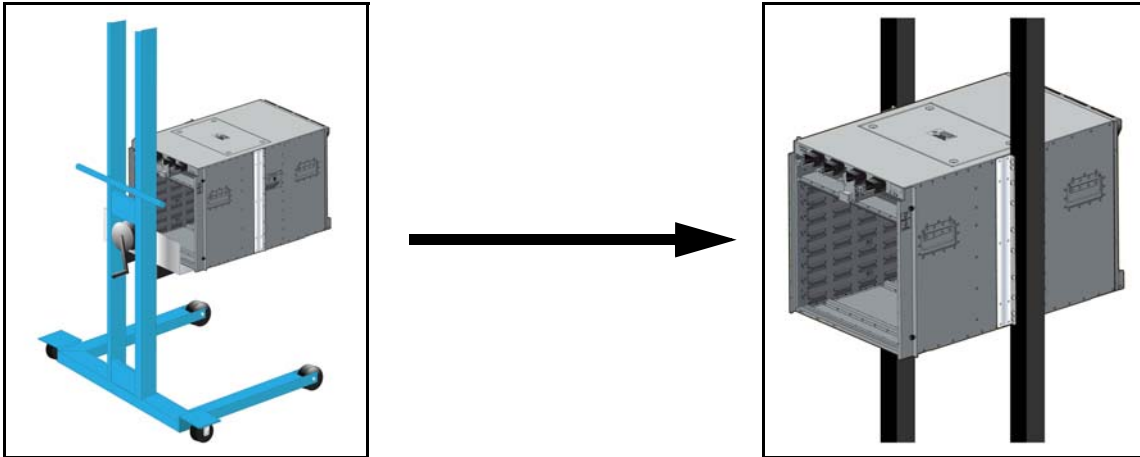

Figure 2: Lifting the Switch Chassis into the two post rack
Step 1 Move the chassis to the rack using a mechanical lift (Figure 2).
Step 2 Lift the chassis into the rack. Position the flanges against the rack posts (Figure 2).